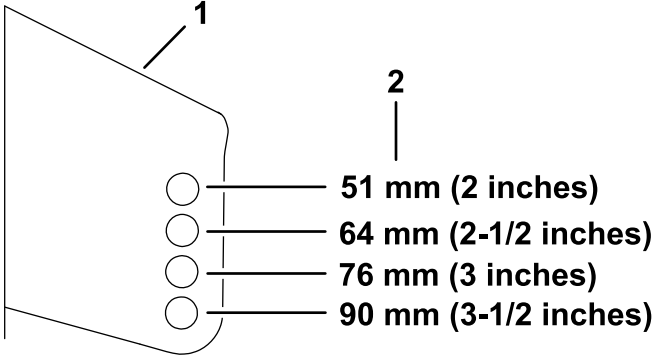

Figure 28
- Place the rollers in 1 of the positions shown in Figure 28.